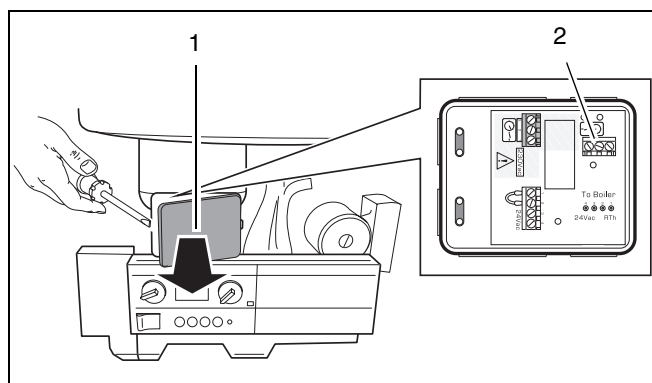

fig. 22 Connection box - Volt free connection
- Remove the cover of the room control converter (fig. 22, item 1).
- Lead the control device wire through the cable lead (see fig. 22).
- Fix the wire to position 1 and 2 of the volt free connection (fig. 22, item 2).